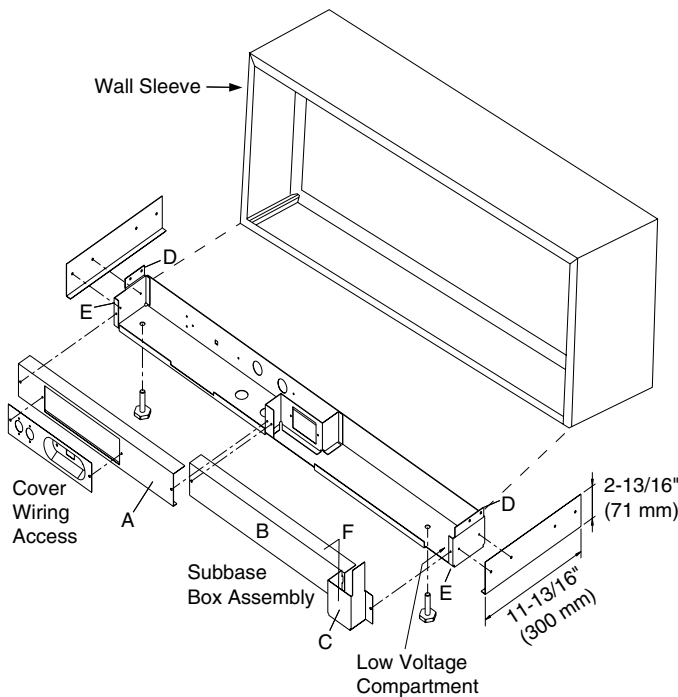

Figure 59 - Dimensions
3. Align the back edge of the flange on cover A (Figure 58, next page) to front of the wall sleeve flange. (Figure 59, next page)